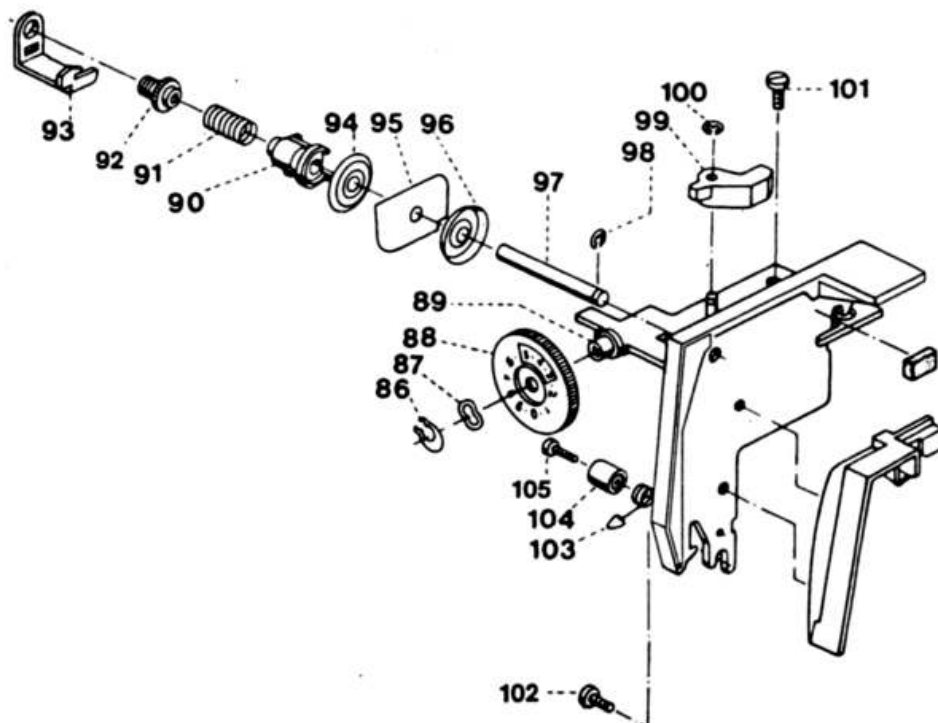

Fig. 22
- Remove circlip 86 (fig. 22).